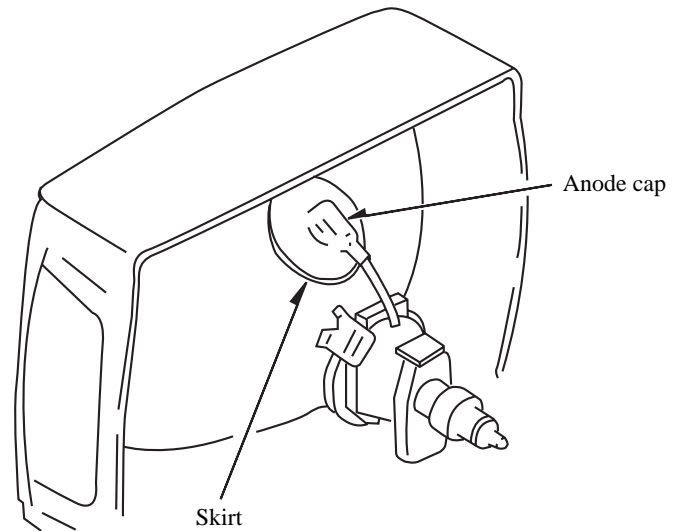

Fig. 6
- (8) Pull the anode cap slightly with the rubber cap turned over and visually check that the hook is engaged securely.
- (9) Release your hand from the rubber cap of the anode cap.
- (10) Hold the skirt of the anode cap slightly to improve the close contact between the cap and CRT.
- (11) Check that the anode cap is in close contact with the CRT. (See Figure 6)